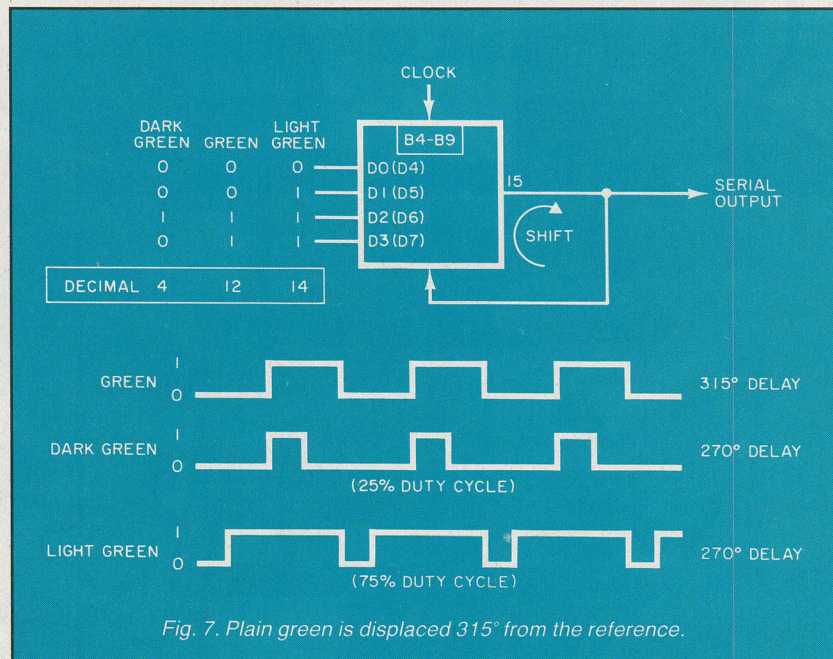
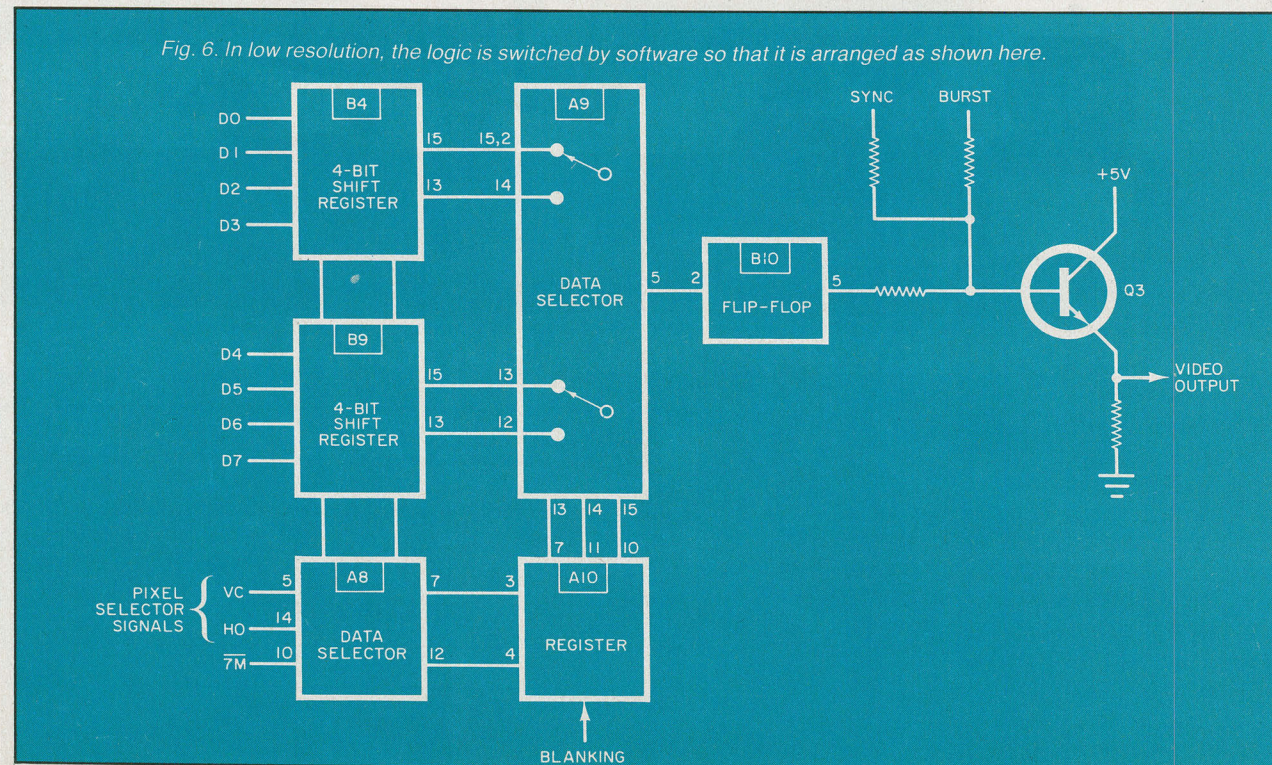

Fig. 7. Plain green is displaced 315° from the reference.
Fig. 6. In low resolution, the logic is switched by software so that it is arranged as shown here.
**Low Resolution.** The LORES mode uses the same hardware as HIRES but it is software switched into the arrangement shown in Fig. 6. The major change is that shift registers B4 and B9 now form two 4-bit registers instead of a single 8-bit device as used in HIRES. Each is selected by data selector A8.
The two shift registers actually generate four pixels (on even and odd bytes) with each addressed via the four combinations of the H0 and VC signals applied to register A10 (Fig. 6). The VC signal changes every four scanned lines, while the H0 signal changes every 978 nanoseconds. These signals, along with the blanking signal applied to register A10,
Now, let us see how LORES color is created using the partial logic arrangement shown in Fig. 7. The output of the selected 4-bit shift register (B4 and B9) is passed to two circuits—data selector A9 (Fig. 6) and the video output circuit, and then back to the bottom of the 4-bit shift register (Fig. 7). Thus, as the shift register is clocked, the data present on data lines D0(D4) through D3(D7) circulates through the register. While this is going on, the H0 and VC lines are selecting the desired "pixel."
As shown in the waveforms of Fig. 7, for "plain" green, the waveform is displaced 315 degrees from the reference. The waveform that generates dark green is not a square wave, but has a 25% duty cycle (it spends 3/4 of its time at logic 0, which is essentially black). The fact that the waveform is at 270 degrees still makes it green, but a little darker since, besides the 25% duty cycle, it is also closer to blue on the phase diagram of Fig. 2.
If you now go back to either Fig. 3 or Fig. 6, you will note that, after leaving flip-flop B10, the chroma information is matrixed into emitter follower Q3 along with the horizontal and vertical sync signals and the 3.579545-MHz reference burst.